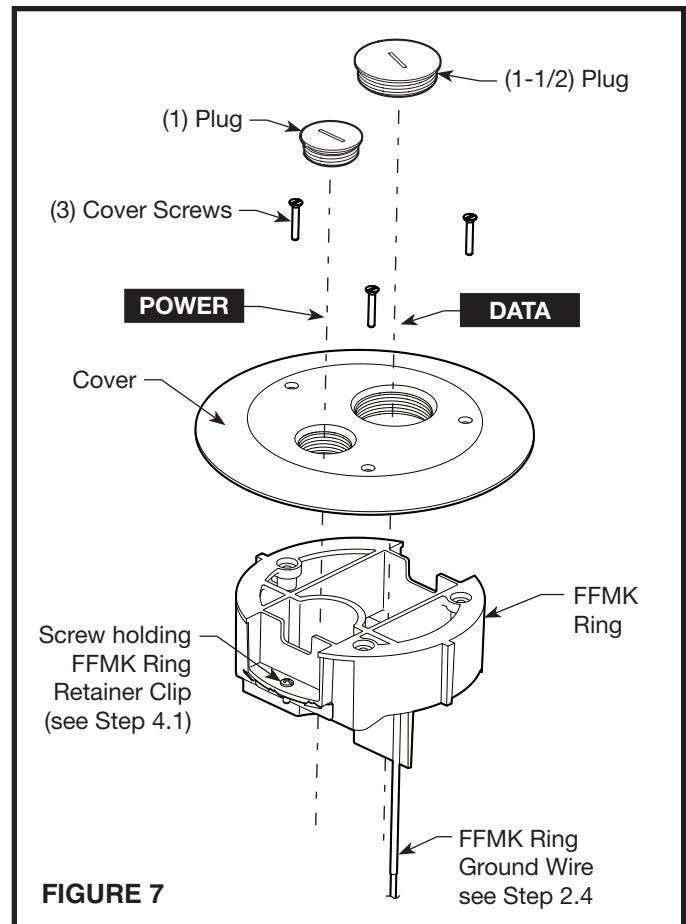

FIGURE 7
- 2.2 Secure 68-HP-FFC-XXX cover to FFMK ring using (3) screws furnished with cover. See instructions furnished with cover (see figure 7).
- 4.1 Remove the cover 68-HP-FFC-XXX. Remove the (2) screws holding the retainer clips (see figure 7). The FFMK ring can be lifted out of box when the retainer clips are dis-engaged from the ring.